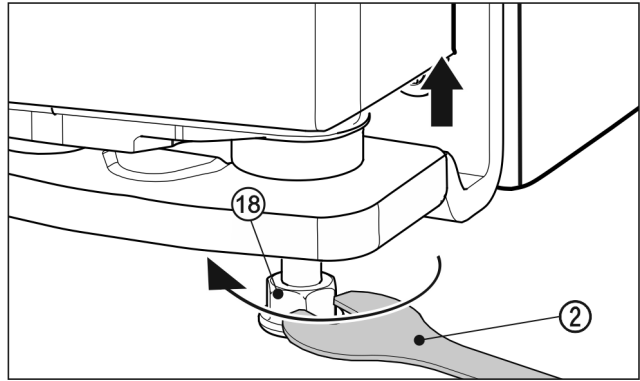

Fig. 25
- ▶ To lift the door, unscrew the adjusting foot Fig. 25 (18) clockwise using the supplied open-ended spanner Fig. 25 (2) until the foot comes into contact with the floor. Then continue turning until the door is adjusted to the right height. When delivered, the bearing pin is completely screwed in.